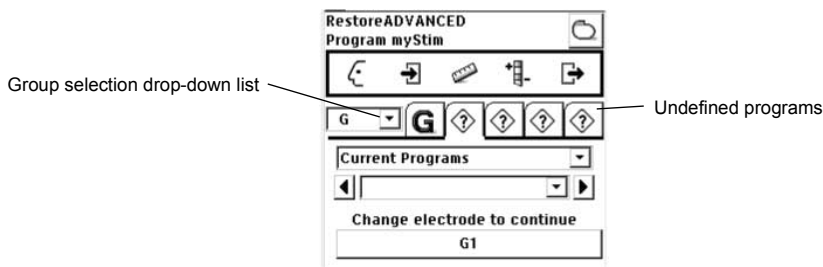

Figure 31. Creating a new undefined group.
2. Select an undefined program tab (Figure 31).
3. Select an undefined program tab in that group (Figure 31).
5. Hold the programming head steady over the neurostimulator, then press the PROGRAMMING (P) key or select the PROGRAM (P) button on the programmer screen.